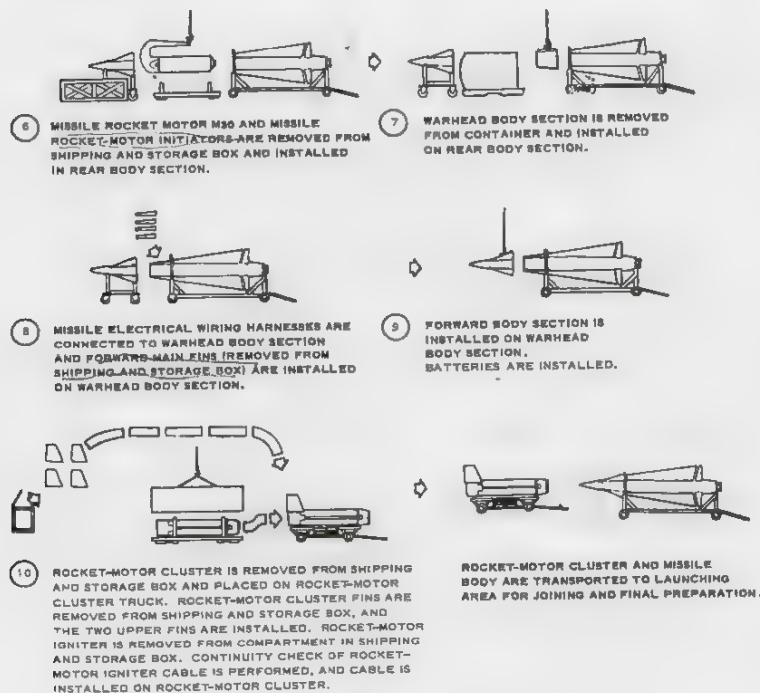

Figure 3-17. Service area operations flow chart.
a. General. Operations performed in the service area are illustrated in figure 3-17. At the conclusion of these operations, the missile body and rocket-motor cluster are transported on their respective trucks to the launching section area.
- (1) Remove the forward body section from the testing fixture assembly and place it on the forward body section truck. Remove the testing fixture assembly. Remove the blast tube shipping support, the two thermostats, and initiator wiring harness from the forward end of the missile motor section.
- (2) Unpackage the missile rocket motor and inspect the propellant grain for cracks.
- (3) Attach the missile rocket-motor hoist beam and, using the portable hoist unit, raise the missile rocket motor and align it with the missile motor section (fig 3-17(6)).
- (2) Roll the components out on the movable tracks and attach the warhead body section hoist beam.
- (3) Using the portable hoist unit, bolt the warhead body section to the rear body section (fig 3-17(7)).
- (4) Install the transponder control group and warhead wiring harnesses. These run from the missile distribution box in the equipment section along the outside of the missile body under rear and forward main fins Nos. 3 and 4, respectively, and through openings at the forward end of the warhead body section.
- (5) Remove the fail-safe control and sequential timer from the forward body section and install them at the front end of the warhead body section.
- (6) Connect the fail-safe control wiring harness to the transponder control group wiring harness, the safety and arming device mounting plate, the fail-safe control, and the sequential timer.
- (7) Bolt the four forward main fins to the warhead body section (fig 3-17(8)) insuring that fins Nos. 3 and 4 properly cover the wiring harnesses.
- (1) Using the portable hoisting unit, lift the forward body section from the forward body section truck and join it to the warhead body section (fig 3-17(9)).
- (2) Connect the transponder control group wiring harness (emerging from the warhead body section) to the transponder control group connector in the forward body section.
- (1) Uncrate and inspect the rocket-motor cluster fins.
- (2) Remove the top of the rocket-motor cluster shipping container and inspect the rocket-motor cluster. Remove the four rocket-motor igniter containers and store them in the igniter storage area. Remove the plastic shipping plug at the head of each rocket motor and inspect the interior. Replace the plastic shipping plugs.
- (3) Using the rocket-motor cluster hoist beam and portable hoisting unit, lift the rocket-motor cluster from its shipping container and place it on the rocket-motor cluster truck (fig 3-17(10)).